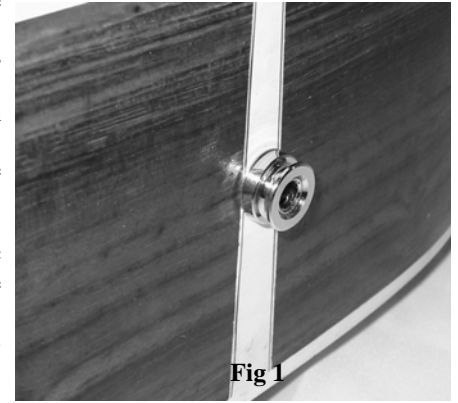

Fig 1
**Setting The Gain** Figures 1 and 2 show where all solder points are made on the circuit board. As supplied from our shop, if a pickup comes prewired to the preamp, the gain on the channel that the pickup is connected to is set at approximately 20% of maximum. If no pickup is prewired in, then both channels of the preamp are turned to '0' and the gain has to be set to suit whatever is going to be connected.
For installations where another active pickup is being used and one wants to utilize the capabilities of the Artist II circuitry, the following guidelines should be followed. Power (+) may be obtained from the pad marked 'Battery (+) Red' in fig.1. Ground (-) may be obtained from the pad marked 'Battery (-) Black' in fig.1. The lead from this secondary active pickup that is normally used to turn the battery on and off is to be connect to the pad marked 'Battery Switch Lug (-)' in fig.2.